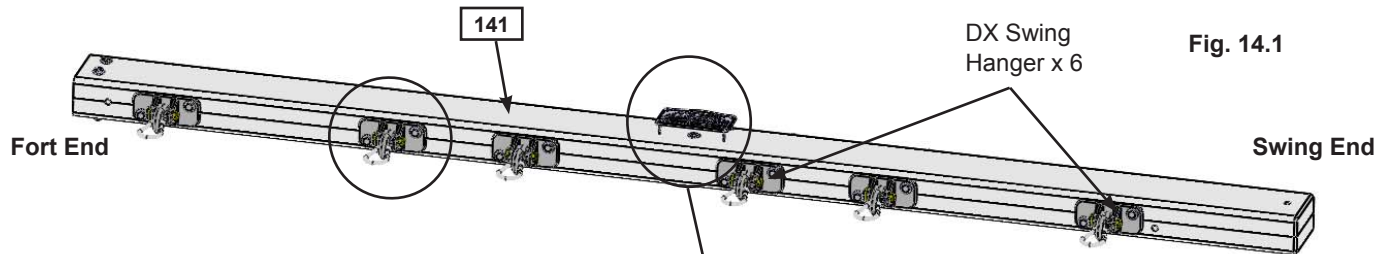

Fig. 14.1
**A:** Attach 6 DX Swing Hangers to (141) Engineered SW Beam using 2 (G13) 5/16 x 6-1/8" Hex Bolt (with 2 flat washers, plastic formed washer and lock nut) per swing hanger, as shown in (fig. 14.1 and 14.2).
**C:** Install 1 (WB7) 5/16 x 3" Wafer Bolt (with flat washer and t-nut) in the middle bolt hole, from the bottom up, in (141) Engineered SW Beam as shown in (fig. 14.1 and 14.4). **IT IS IMPORTANT THAT THIS BOLT IS ATTACHED. IT WILL MINIMIZE CHECKING OF WOOD.**